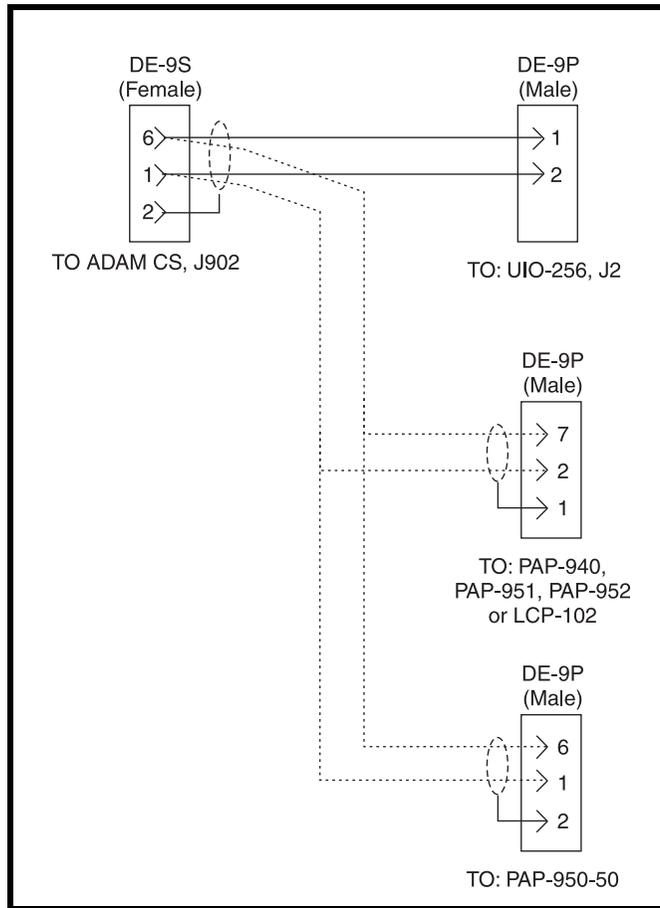

FIGURE 8. Cable for Connection of a UIO-256 or a Program Assign Panel
1. Connect J2 of the UIO-256 to J902 of the ADAM CS. The interconnect cable should be wired as shown in Figure 8 on page 16. If a program assign panel is also being used, it may be wired to the same connector as show in Figure 8.